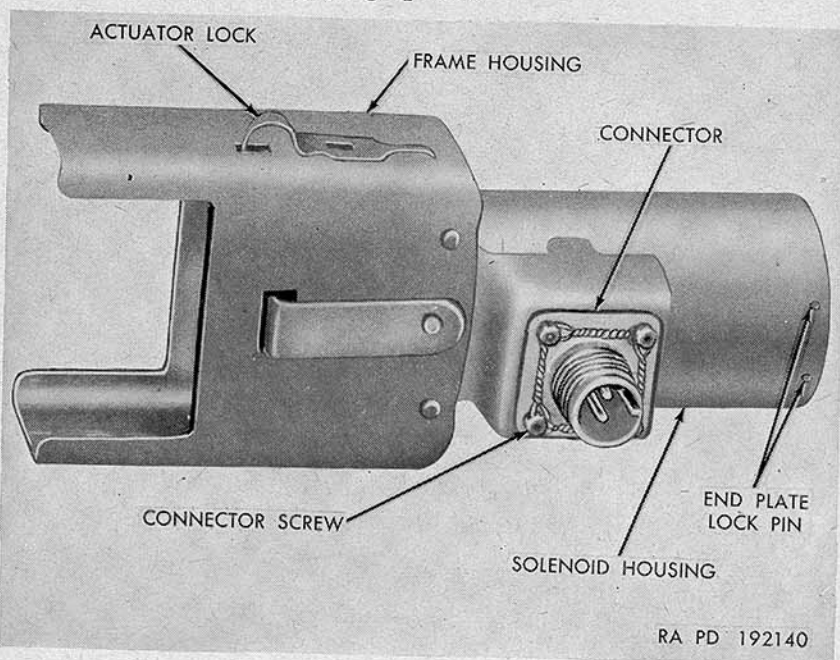

Figure 100. Charger housing group.
d. Disassembly of Charger Housing Group (figs. 100 and 101).
- (1) Remove the end plate lock pin by inserting small screw driver under pin and prying upward.
c. Assembly of Charger Housing Group (figs. 100 and 101).
- (1) Insert solenoid coil into solenoid housing and pull wire leads through the connector hole. Resolder leads to connector.
- (2) Position connector so that the four screw holes align with those in the connector base. Install and lock-wire the four connector screws.
- (3) Install end plate spacer over coil.
- (4) Install armature stop in end plate and screw both into rear of solenoid housing as far as possible.
- (5) Turn end plate back until one of the slots in the end plate aligns with one of the pin holes of the solenoid housing.
- (6) Install end plate lock pin in slot of end plate and allow pin to pass through pin holes of solenoid housing. Rotate pin and snap into groove of armature stop.
- (7) Install the actuator lock.